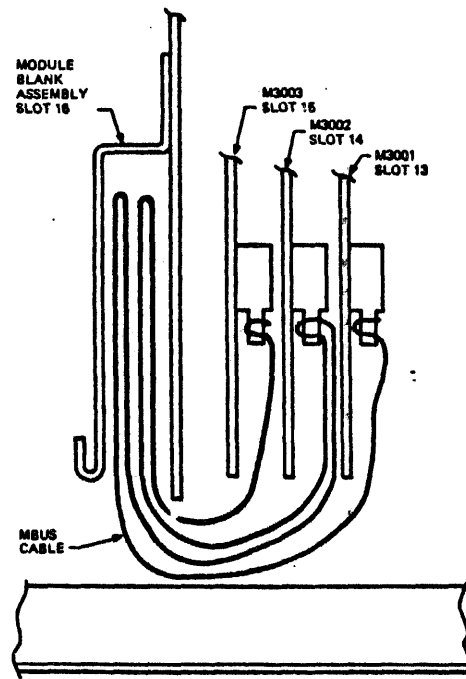

Figure 3-3. MBUS Cable Interboard Connection, Top View
1. Connect MBUS cable, DEC part number 70-19270-J1. Be sure to orient the cable so that the flat wire comes out of the cable header away from the board, as shown in the overhead view, figure 3-3.
3. Connect the MBUS cable to the M3002 Module as shown in figure 3-3.
4. Insert the Port Microprocessor Control Module, M3002, in slot 14, to the left of the M3001, as shown in figure 3-3.
5. Connect the MBus cable to the M3003 module as shown in figure 3-3.
8. Fold the MBus cable into the module blank assembly, as shown in figure 3-3.